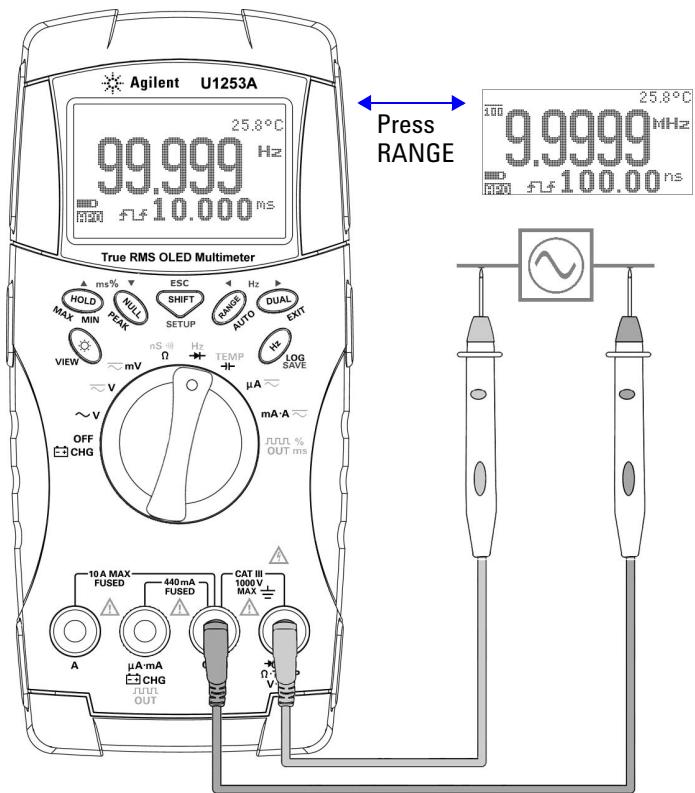

Figure 2-6 Measuring frequency
- 3 Connect the red and black test leads to input terminals **V (red)** and **COM (black)** respectively (refer to Figure 2-6 on page 39).